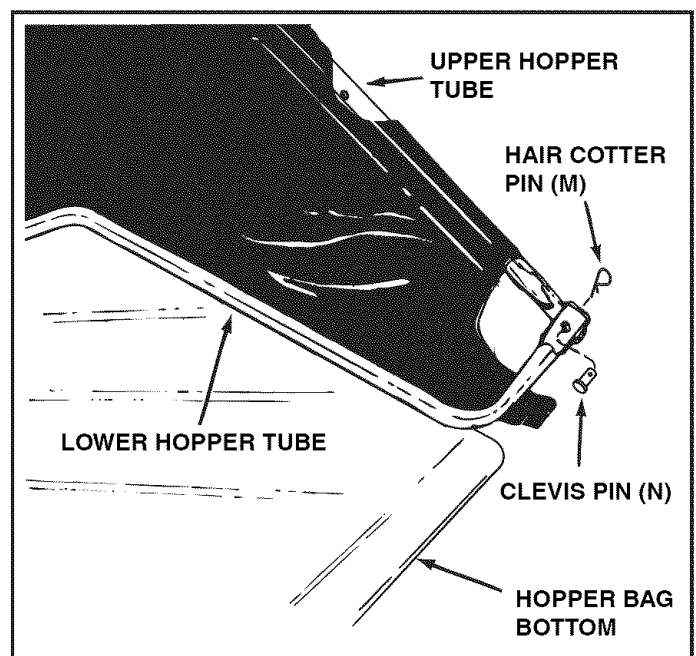

FIGURE 10
- Place the assembled lower hopper tubes into the bottom of the hopper bag and then slide the tubes to the back of the bag. See figure 10.
- Attach the ends of the lower hopper tubes to the **inside** of the upper hopper tubes using two clevis pins (N) inserted from the inside, and two hair cotter pins (M). See figure 10.